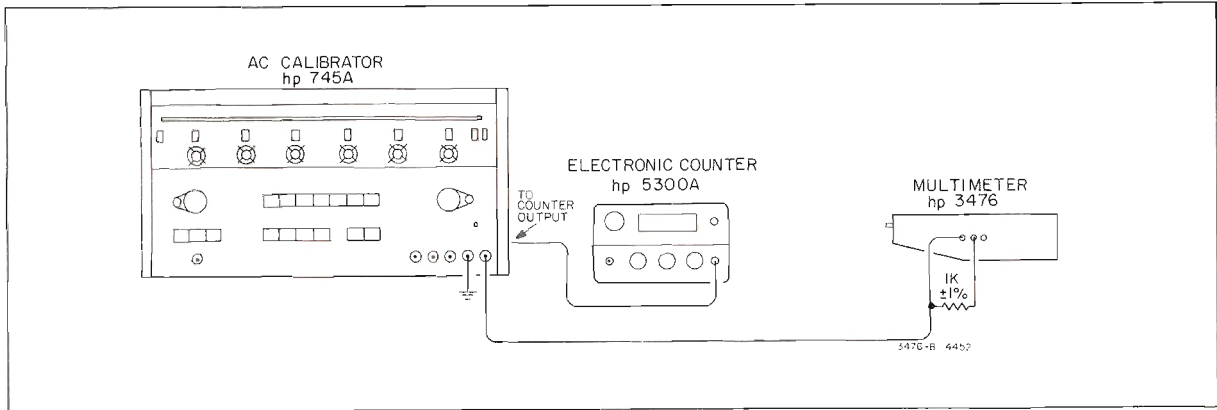

Figure 5-4. Common-Mode Rejection Test.
- Connect the AC Calibrator HI output terminal to the Multimeter as shown in Figure 5-4.